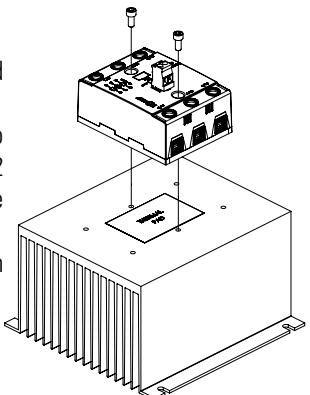

fig.1 SSR mounted on HS053 heat sink
- SSR housing mounting holes have a diameter of 0.341in (8.66mm). Two screws are needed to mount the SSR onto a heat sink (See fig.1). Mounting screws are sold separately as HK8. Otherwise, recommended screw size is 8-32 (socket) using an allen wrench (9/64 in) for the installation. Choose screw length considering mounting surface hole depth and SSR baseplate thickness of 0.125 in (3.2 mm).